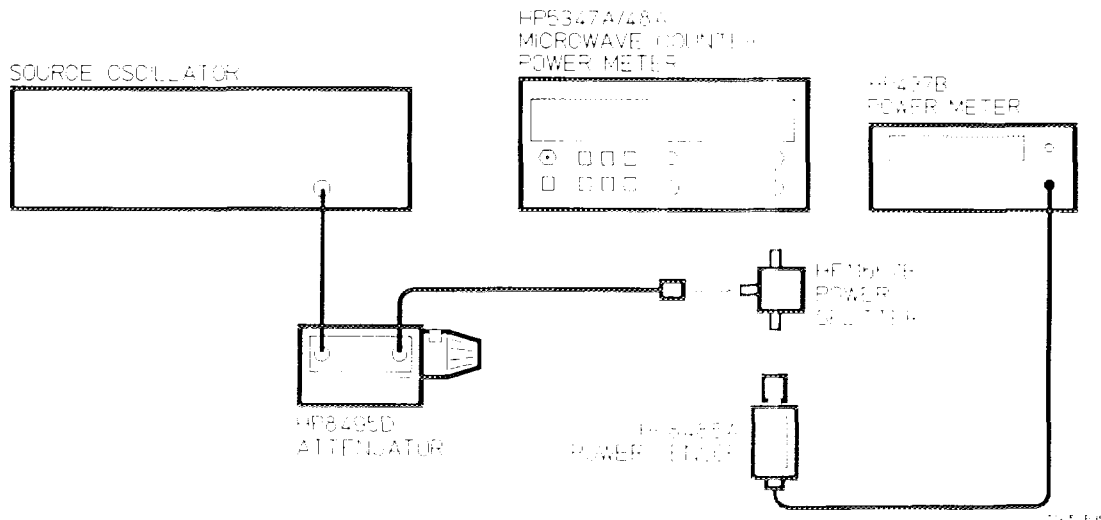
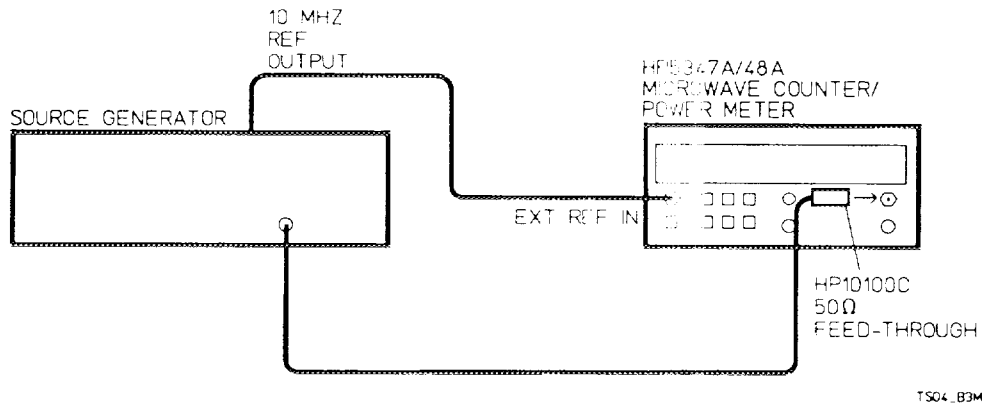

Figure 4-1. INPUT 2, 50 MHz-525 MHz Verification Test Setup
Figure 4-2. INPUT 2, 10 MHz-50 MHz Verification Test Setup
Description: This check is in two parts to check both the high frequency measuring capability of the 50 Ω input impedance and the low frequency measuring capability of the 1 M Ω input impedance of INPUT 2. In Part I, the HP 5347A/48A is set to the 10 MHz-525 MHz range, 50 Ω impedance, and a 25 mV rms (-19.3 dBm) signal is applied to INPUT 2. The source is set to selected frequencies and the HP 5347A/48A is checked for proper counting. Next, the HP 5347A/48A's 1M Ω impedance for the lower frequency range is checked. Since the same test setup in *Figure 4-1* with the addition of a 50 Ω feedthrough is used to perform the 80 MHz check, the 80 MHz check is performed before the 10 Hz-50 MHz check. A 25 mV rms (-19.3 dBm) 80 MHz signal is applied to INPUT 2 through a 50 Ω feedthrough, and the HP 5347A/48A is checked for proper counting. In Part II, the test setup is changed to *Figure 4-2* to test the 10 Hz-50 MHz range.
1. Connect the equipment as shown in *Figure 4-1*.
The 1 M Ω impedance of INPUT 2 is checked with an 80 MHz input signal before it is checked with signals from 10 Hz through 50 MHz. This is done for convenience since to perform the 80 MHz check you need to use the test setup in Figure 4-1 with the addition of the 50 Ω feedthrough between the power splitter and INPUT 2 connector.
1. Using the test setup in *Figure 4-1*, insert a 50 Ω feedthrough (HP 10100C) between the HP 1667B power splitter and INPUT 2 of the HP 5347A/48A.
1. Connect the equipment as shown in Figure 4-2.